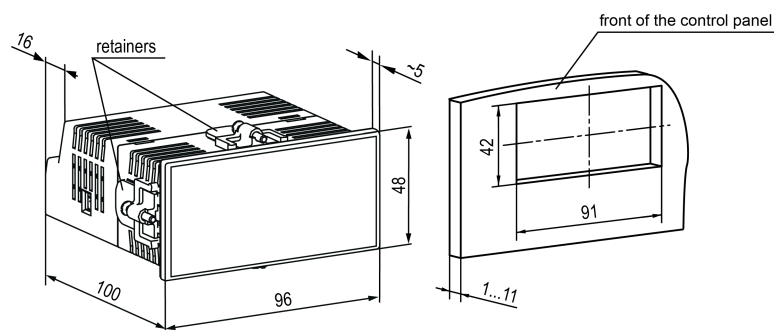

Fig. 4.5 Dimensions of P2 enclosure and mounting cutout
1. Using the supplied cutout template, prepare the mounting cutout in the control panel where the device should be mounted (see Fig. 4.5).
The mounting cutout dimensions shown in Fig. 4.5 are selected to ensure IP54 on the front of the control panel. When preparing the cutout, it is advisable to take into account the features of the tool used.